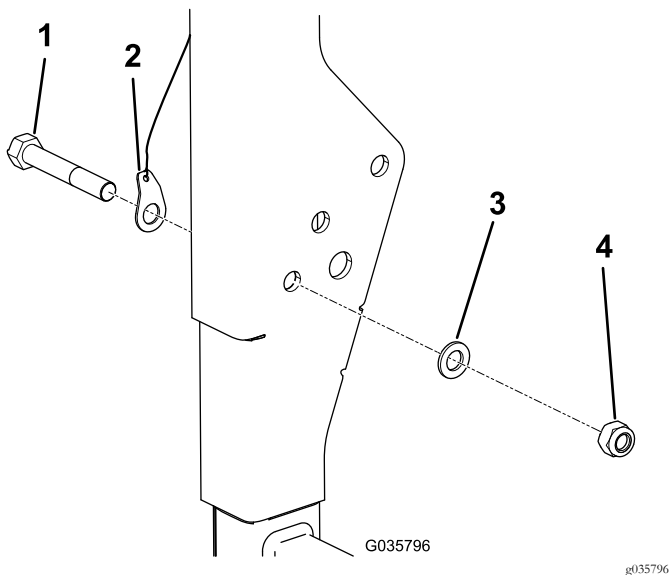

Figure 7
2. On the same side of the ROPS on which you plan to install the kit, remove the nut, bolt, and washer from the ROPS and discard the nut and bolt; refer to Figure 7.